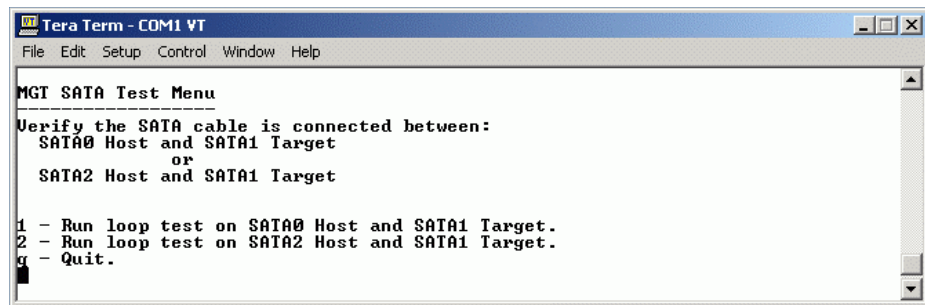

Figure D-6: Selecting the Specific SATA Port to Test
- After entering “1” from the “Main Menu” in the terminal window, select which of the two serial ATA pairs you would like to run the test on. See Figure D-6.